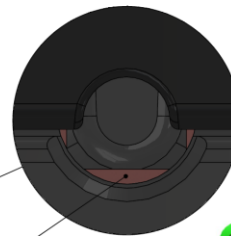

FIGURE 6
STEP 8: Verify TERMINALS are in proper position and TAP WIRE can be fully-inserted (FIGURE 6)
- Repeat until TERMINAL is in the position shown in FIGURE 6. DO NOT completely loosen screw.
- TERMINAL must be positioned at bottom of port, permitting full-insertion of TAP WIRE (see FIGURE 6)